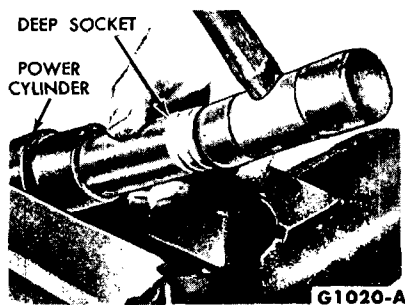

FIG. 18—Installing Power Cylinder Seals
2. Push the rod in all the way, and install the parts in the cylinder with a deep socket slightly smaller than the cylinder opening (Fig. 18).